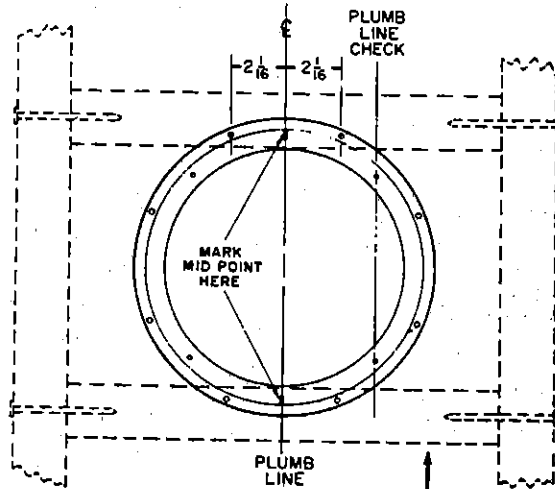

Figure 4.
2. Nail 2 by 2's in place, and install Plaster Ring as shown in Figure 4 after lath has been applied.